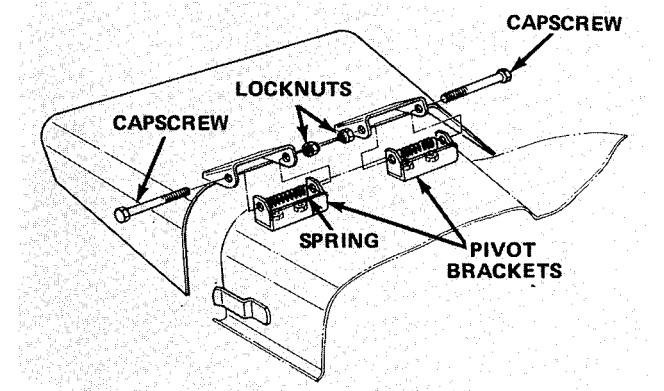

Figure 15
1. Remove two capscrews, locknuts and springs securing deflector mounts to pivot bracket (Fig. 15).
2. To remove the pivot brackets, remove carriage bolts, lockwashers and nuts (Fig. 15).